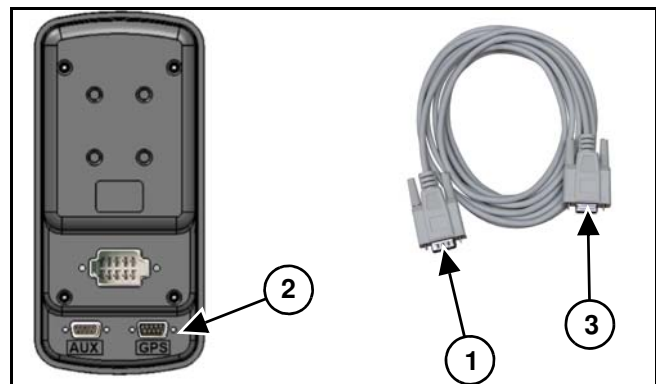

Figure 2
[Figure 2] - The GPS connection is achieved by attaching a GPS receiver signal to SharpShooter® with Rate Sync® display via a serial adapter cable end (1) to the GPS port (2) located on the backside of the display. Connect the serial adapter cable end (3) to the machine GPS system.